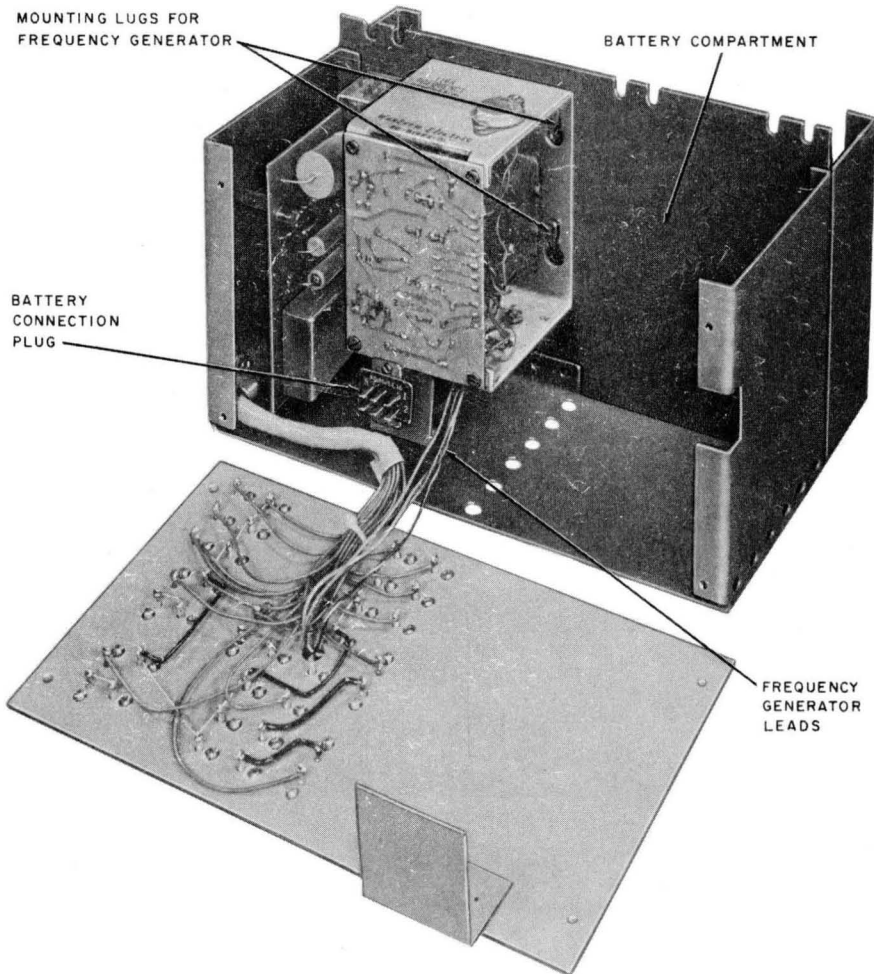

Fig. 2—47C Power Unit (Front Cover Removed)
2.04 The front panel (Fig. 2) of the power unit, mounting the input and output screw terminals and fuses, is removable.
2.07 Battery (KS-20390, List 1): Consists of a 24-volt (dc reserve) and a 10-volt dc (lamp reserve) battery in a single case. The battery is mounted in the battery compartment and connected to the power unit with a connector ended cable (Fig. 2). The battery will provide approximately three years of service at ambient temperatures ranging from 32° to 140°F. A label is provided on the battery for recording the installation date.
- (1) Remove front cover from 47C power unit (Fig. 2).
- (2) Place battery in power unit battery compartment and connect battery connector to mating battery connection plug.
- (3) Replace front cover.
- (1) Remove front cover from power unit (Fig. 2).
- (2) Record installation date on label provided on battery.